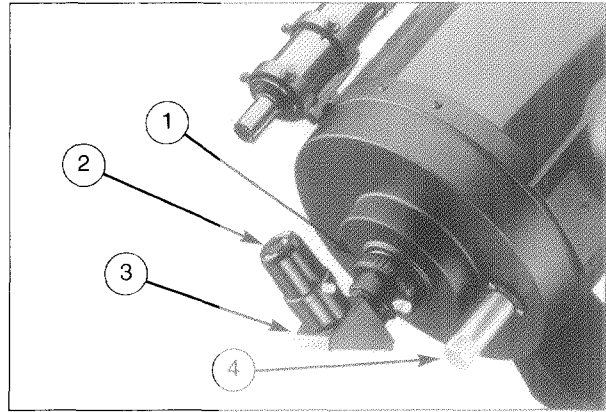

Fig. 3: (1) Eyepiece Holder; (2) Eyepiece; (3) Diagonal Prism. (4) Focus knob.
**CAUTION: (10" LX50 Only) Read this note BEFORE attempting to turn the focus knob (4), Fig. 3, of the optical tube. Locate the red-colored slotted head bolt next to the base of the focuser. This bolt is used for safety in shipment only. Remove this bolt before attempting to turn the focuser knob. In place of this bolt, insert the plastic plug provided as a dust protector (this plastic plug is included with the optical tube assembly). The focuser will now be operational. The 10" LX50 should never be commercially shipped without this red-colored bolt in place. This bolt is essential for commercial transport where rough handling may occur. For personal transport and storage, this bolt is not required.**